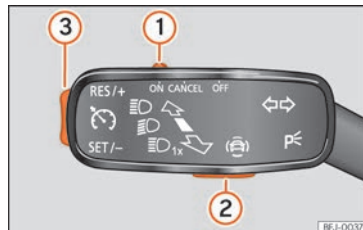
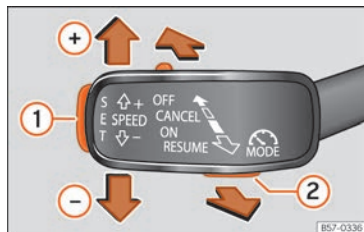

Fig. 154 On the turn signal lever: buttons to operate the speed limiter.
Fig. 155 On the left of the steering column: buttons to operate the speed limiter.
To change between the driving assistance systems, press button  **»» Fig. 154 ②** or button  **»» Fig. 155 ②**, then use the right thumbwheel on the multifunction steering wheel to select from the instrument cluster menu and press the thumbwheel to confirm your selection.
- Move control » » Fig. 154  to position **ON** and press button . Then use the right thumbwheel on the multifunction steering »
• While driving, press button »» Fig. 154 ③ in the area **SET/-**.
You can set the speed using button »» Fig. 154 ③:
- Move control »» Fig. 154 ① to position **OFF**.
If you want to temporarily deactivate the speed limiter, e.g. for overtaking, move the control »» Fig. 154 ① to position **CANCEL** or press button ②.
After overtaking, the speed limiter can be activated with the previously programmed speed by pressing button »» Fig. 154 ③ in the area **RES/+**.
- Move the lever towards the steering wheel to position **ON** and press button »» Fig. 155 ②.
- While driving, press button **SET** »» Fig. 155 ①.
- Press the button **SET** »» Fig. 155 ① to reduce speed in small increments of 1 km/h [1 mph].
If you want to temporarily deactivate the speed limiter, e.g. for overtaking, move the lever to the pressure point **CANCEL** or press button »» Fig. 155 ②.